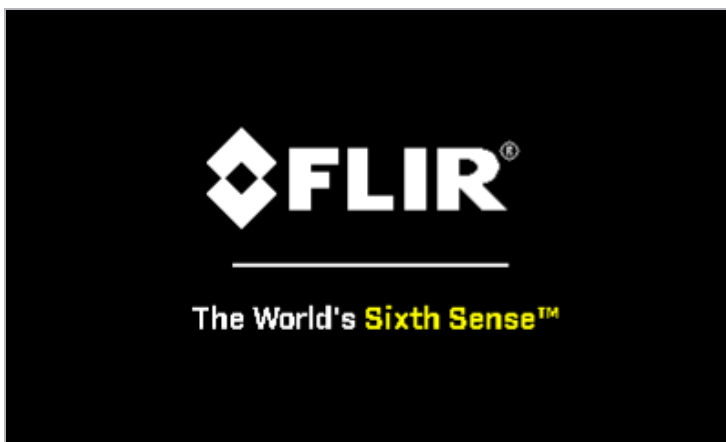

Figure 2-6: Powering up the R425: Product identification
- displays the splash (logo) screen (Figure 2-6)
When software initialization is complete, the R425 home screen (Figure 2-6) appears, in Dose Rate mode (see 4.1 on page 55).